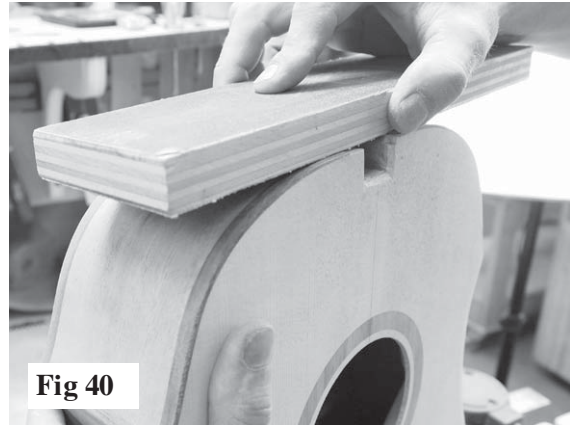

Fig 40
40. Before doing more fitting of the neck to the body, it is best to use your flat sanding block to make sure the heel end of the body is flat and level (fig 40). Try to keep the sanding block from rocking too much as you work on the end of the body. You should not have to remove much material, but you want to get rid of irregularities in the surface, like glue blobs, bumps, and depressions in the wood.